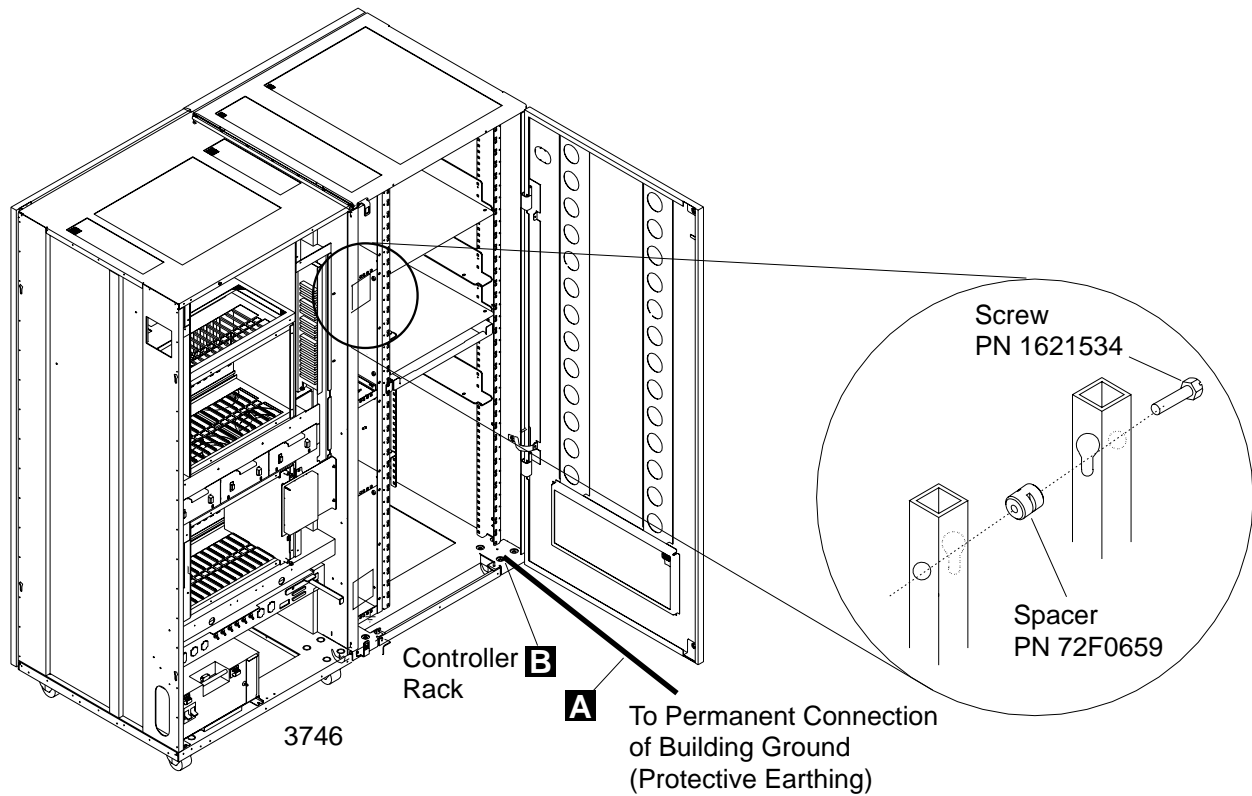

Figure 6-9. Installing the Controller Expansion Attached to the 3746-900
- 1) \_\_\_\_ Refer to Figure 6-9 on page 6-11 and remove the right cover from the 3745 or 3746 frame, and install this cover on the right side of the controller expansion